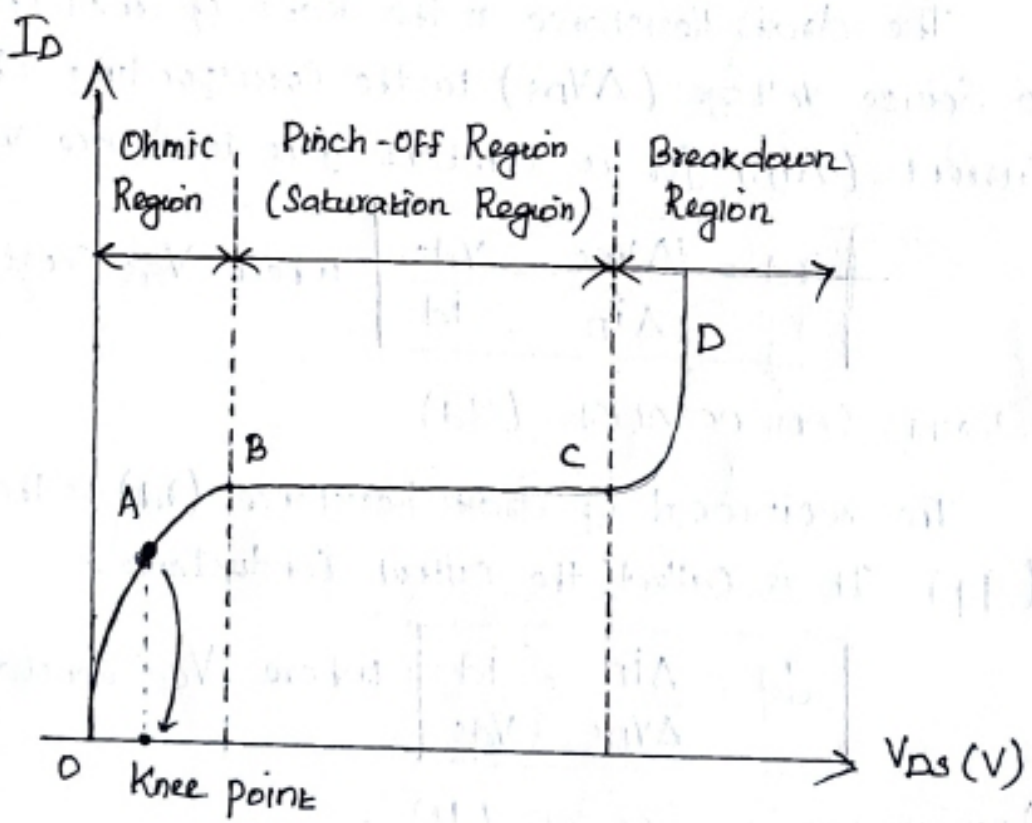

Fig. 8. Drain characteristics
Drain Characteristics Shows the relation between the drain Source Voltage (V_{DS}) and Drain Current (I_D) as shown in figure. 8
- The avalanche Breakdown occurs above "pinch off Region" and the drain current (I_D) increases rapidly, as shown in fig. 8